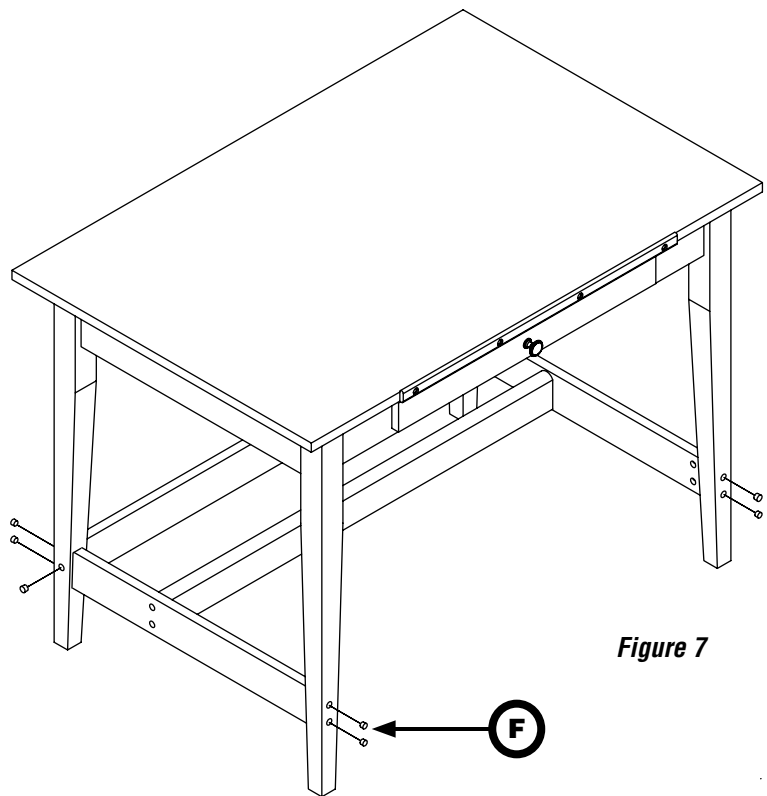

Figure 7
- 2 Optional** Insert the wood plugs (**F**) into each of the bolt holes as shown in *Figure 7*. Gently tap into place. Please don't install with permanent adhesive. Since wood products have a tendency to expand and contract from season to season, we recommend that you remove the wood plugs and retighten the bolts every 6 months.